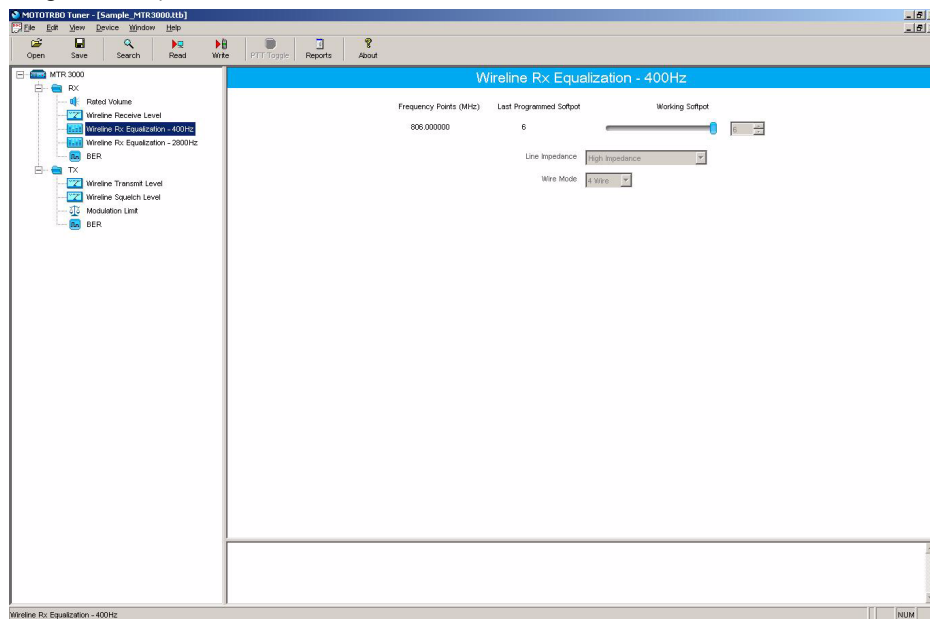

Figure 13-8 Rx Menu tree (Wireline Rx Equalization – 400 Hz)
4. Select “Wireline Rx Equalization – 400 Hz” under the Rx menu in the tree view (Refer to Figure 13-8).